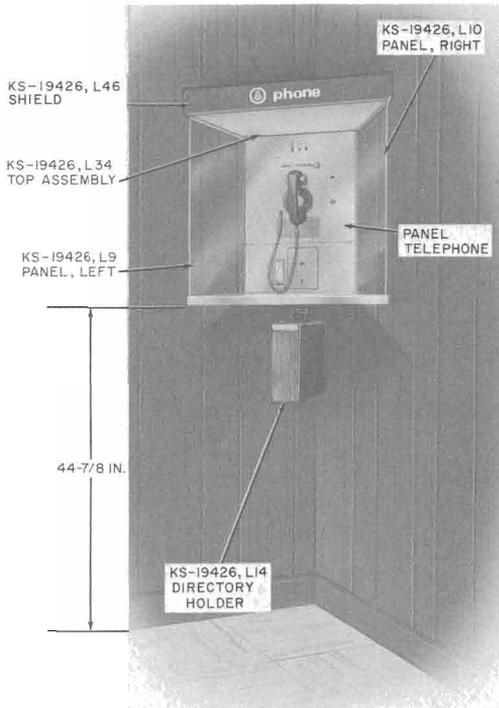

Fig. 4—KS-19426 Mounting in Corner
2.04 Wall mountings (Fig. 4 and 5) may be installed on a flat wall, in a corner, or around a corner in various multiple combinations as shown in Fig. 7.
(b) List 14 directory holder (Fig. 4 and 5) for indoor use.